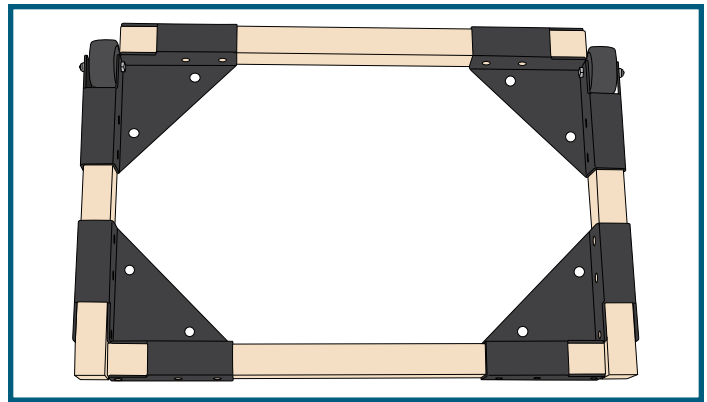

Fig. 2
**Note:** When the Corner Brackets (1) are at 90° angles from each other the Wheels (3) should point in the same direction.
2. Determine best placement of Foot Lever (4) and wheels, keeping in mind that the Foot Lever (4) must be attached opposite the wheels. **Note:** Foot Lever (4) location must not interfere with the machine or cause the machine to be top-heavy when in the raised position.
5. Feed the cut pieces through the metal frame and align them so they are flush with the corners **Fig. 2.**
6. Mark placement of holes in the Corner Brackets (1) on the wooden pieces.